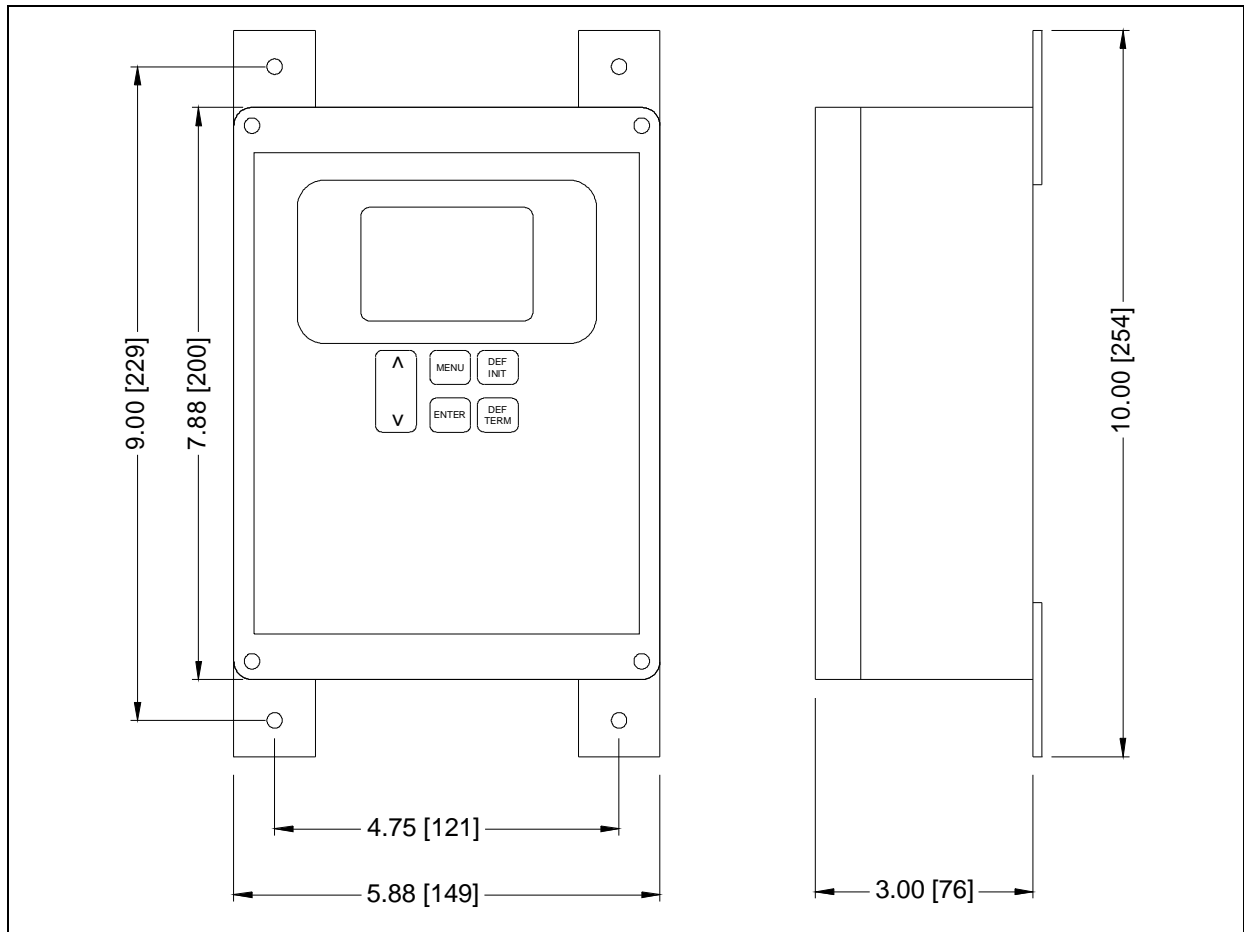
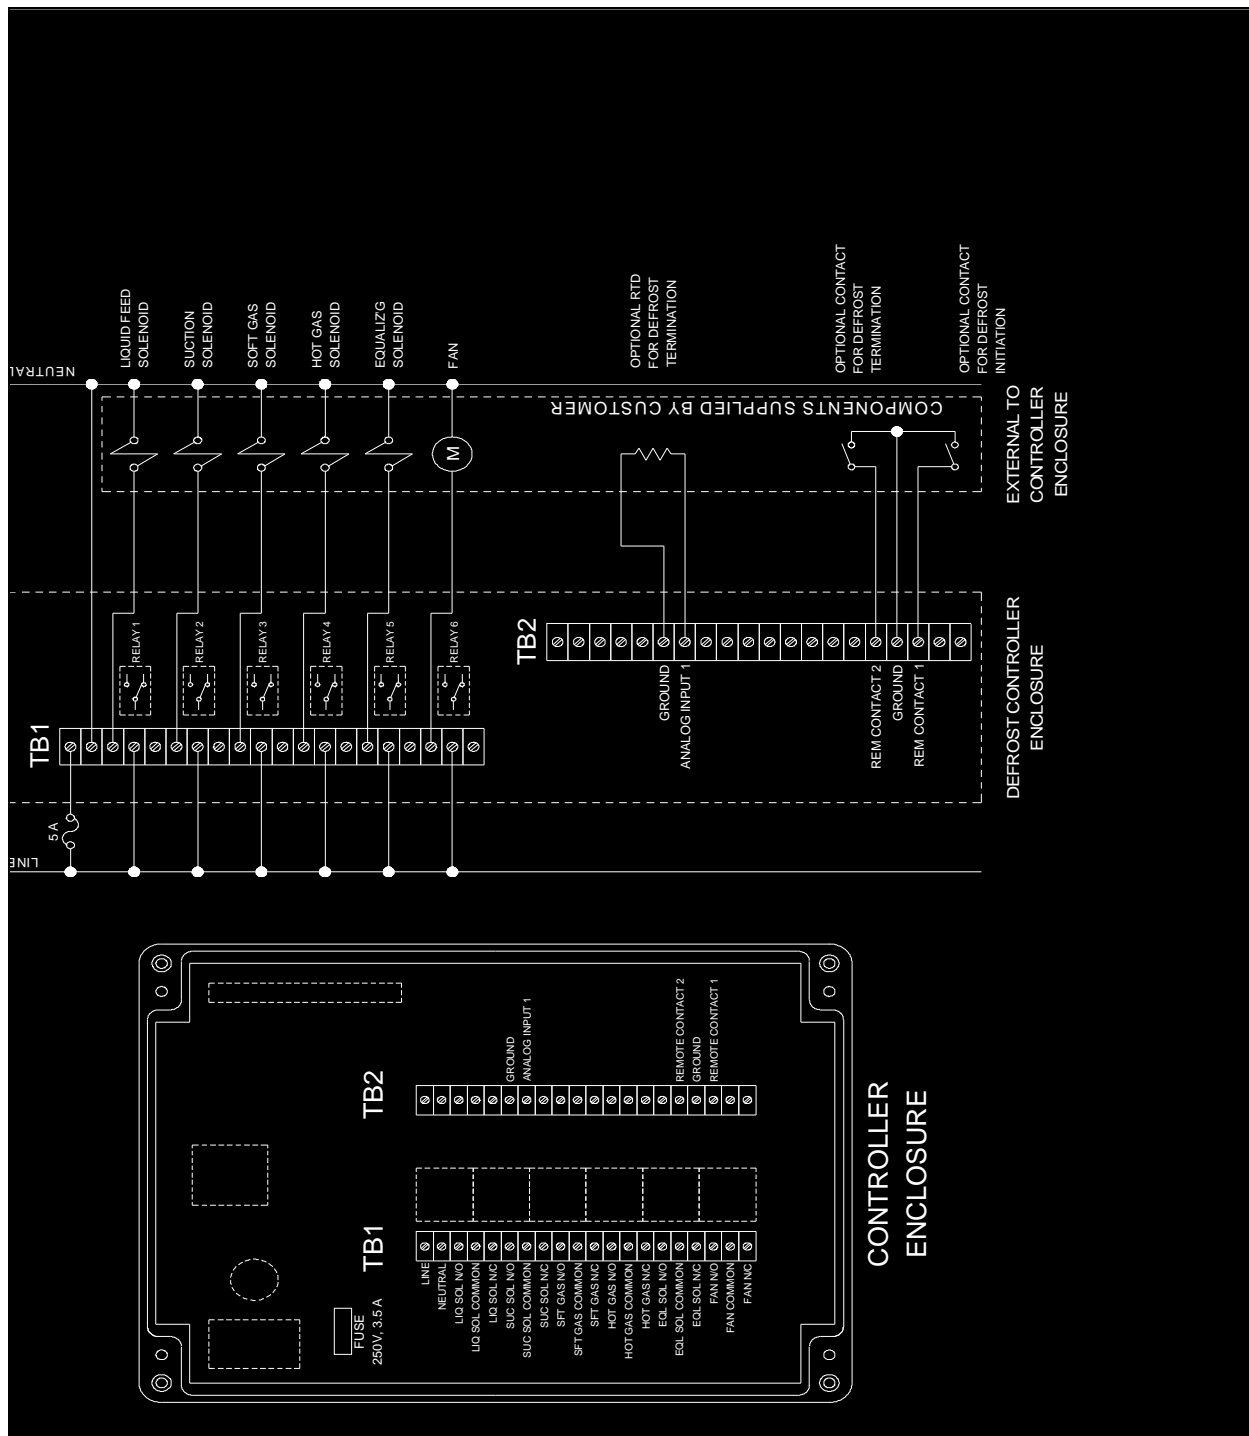

Figure 3: Controller Enclosure
Figure 4: Basic Controller Wiring Diagram
Installation of the Controller should be guided by the specifications summarized in Table 5. The Controller should be mounted in an indoor location having an ambient temperature between 32°F (0°C) and 120°F (50°C). Proper mounting position is shown in figure 3 of this manual. The Controller should not be subject to severe vibration, as this could cause sporadic electrical contacts and fatigue in the connections of any device. As shown on the wiring diagram (figure 4), the Controller should be protected with a 5A external fuse. The Controller is not to be connected to rigid metallic conduit.
- Ø When power is interrupted, all relays will move to their de-energized positions (indicated on the wiring diagram, figure 4).